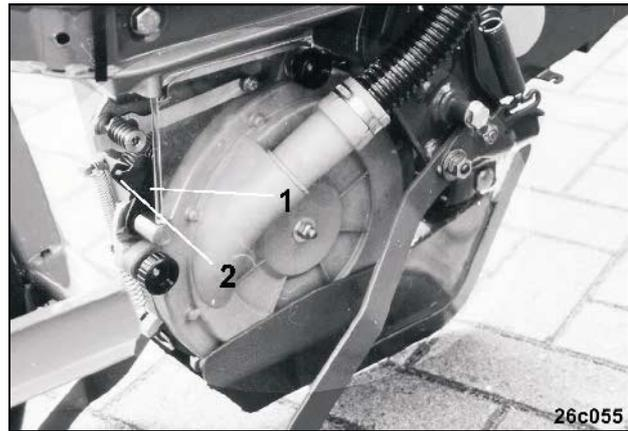

Fig. 67
- Check the scraper (Fig. 67/1) for proper movement. To do this, repeatedly slightly swivel the scraper (Fig. 67/1) with the aid of the lever (Fig. 67/2) - where the spring is hooked in, and guide the scraper out of its position.